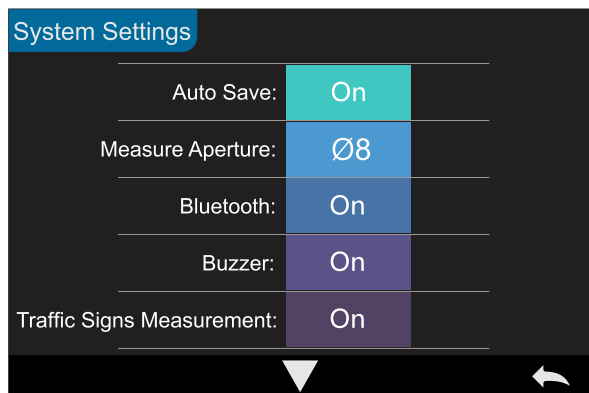
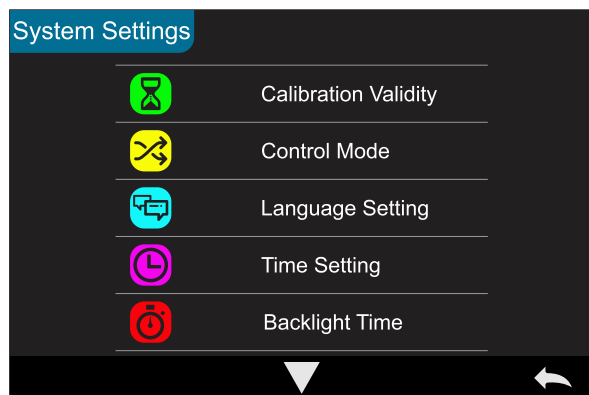
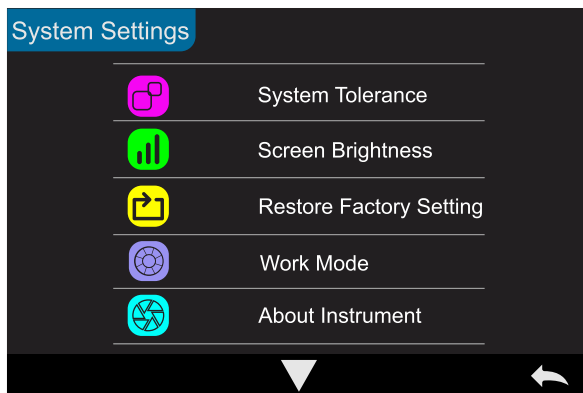

Figure 50 System Settings Interface 1
Figure 51 System Settings Interface 2
Figure 52 System Settings Interface 3
Click “System Settings” in the main menu to enter the system setting interface, as shown in Figure 50 (Figure 12), Figure 51, Figure52.
Step 3, Switch the measurement aperture set by the instrument system to match the actual measurement aperture. Figure 50 shows that the current measurement aperture is Φ8mm. After switching the measurement aperture, you must re-black and white calibration, and follow the instructions of the instrument to complete the black and white calibration.